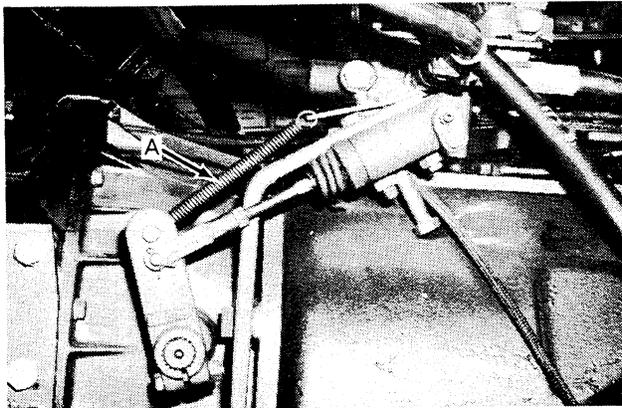

Figure 2:
4. Disconnect the clutch outer arm spring (A-Fig. 2).